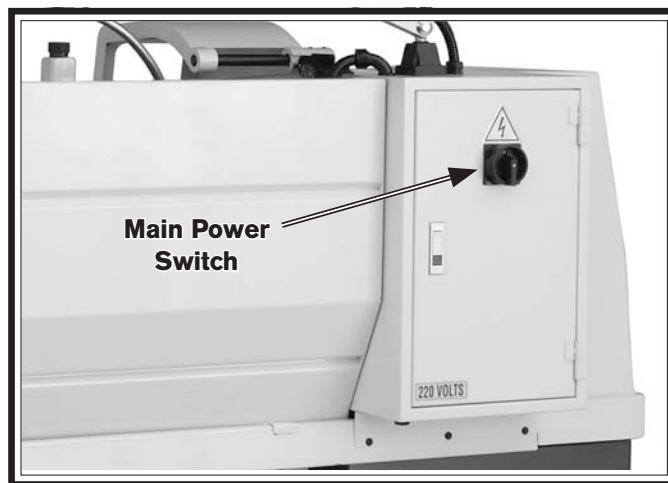

Figure 22. Location of the master power switch.
1. Make sure the master power switch (see **Figure 22**) on the rear of the machine is turned **OFF**.